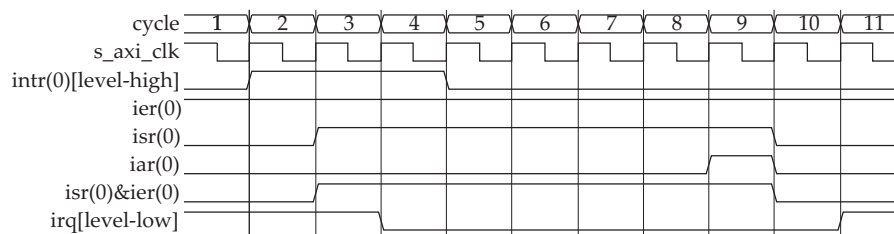

Figure 14: Input Intr - Level Sensitive (Active High) and Output Irq - Level Sensitive (Active Low)
- Configured Input Interrupt (Intr) for Level sensitive (active High) and Output Interrupt Request (Irq) to Level sensitive (active Low) and is shown in Figure 14.